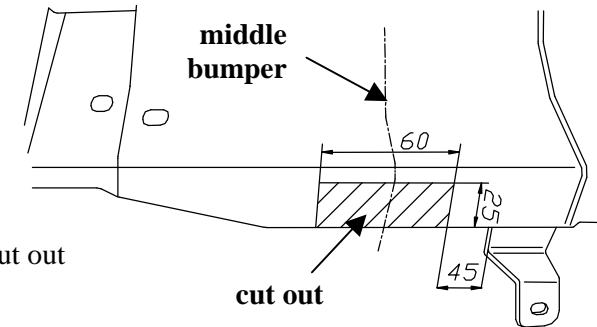

Fig. 2 Bumper's cut out
3. In bumper cut out fragment (in axis) according to figure 2.